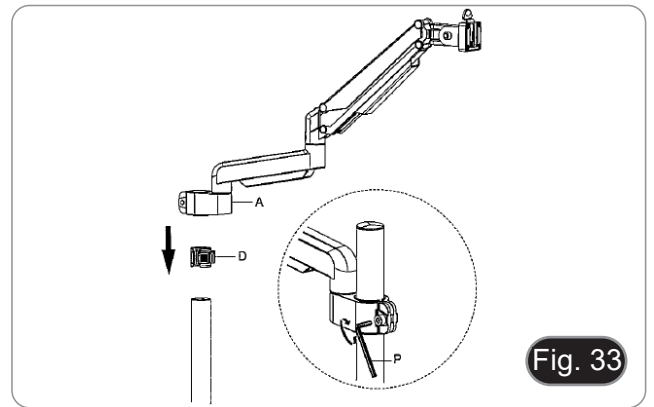

Fig. 33
- **NOTE: The plastic cover (H) also serves as a container for the Allen keys used for assembly and tension adjustment of the various parts.**
6. Insert the drop preventing ring (D) in the pillar.
7. Insert the flexible arm (A) and tighten the fixing screw. (Fig. 33)